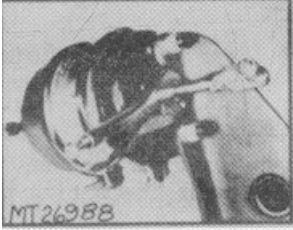

Fig. 10
3. To ease the installation, the service brake pushrod should be extended. Extending the pushrod can be accomplished by manually pushing back the slack adjuster or by application of the service brakes. While the pushrod is extended, a locking type pliers should be used to retain the Pushrod in the extended position (Fig. 10). Then release the service brakes or slack adjuster.